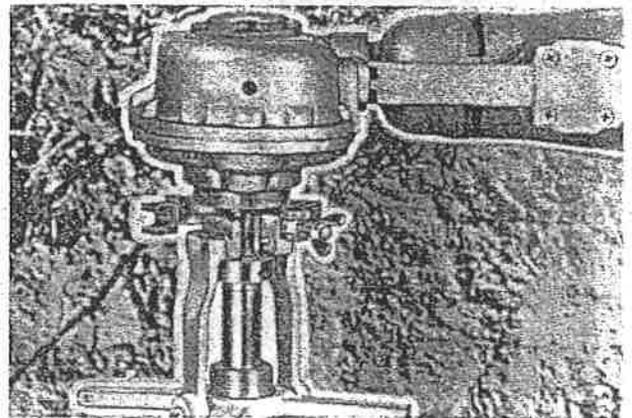

FIGURE 13
4. Loosen wing nut on feed yoke drive socket and swing open socket. FIGURE 13.